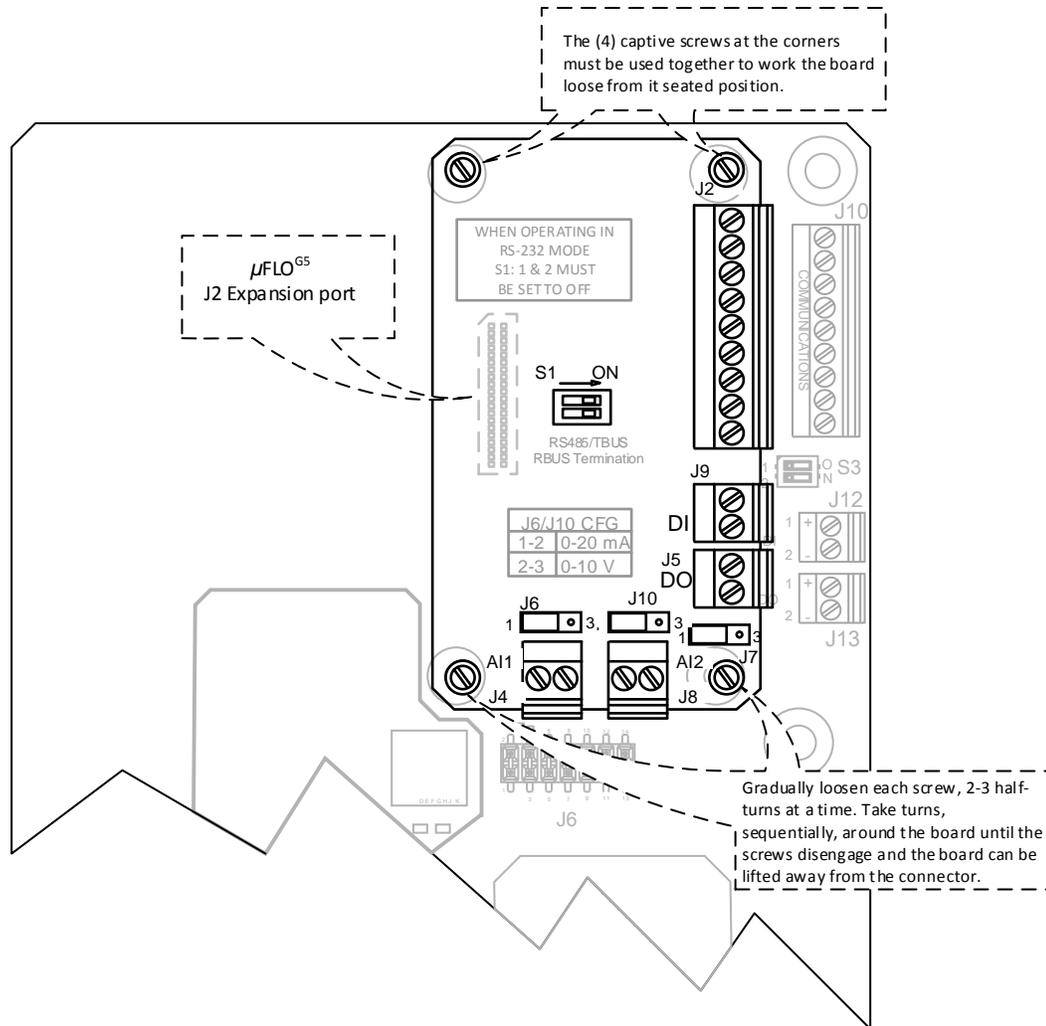

Figure 82: μ FLOG⁵ board – I/O expansion board removal
4. If removing the I/O expansion board as part of another service procedure, it may not be necessary to disconnect the field wiring. Otherwise, disconnect the following field wiring connections on the I/O expansion board (Figure 82):